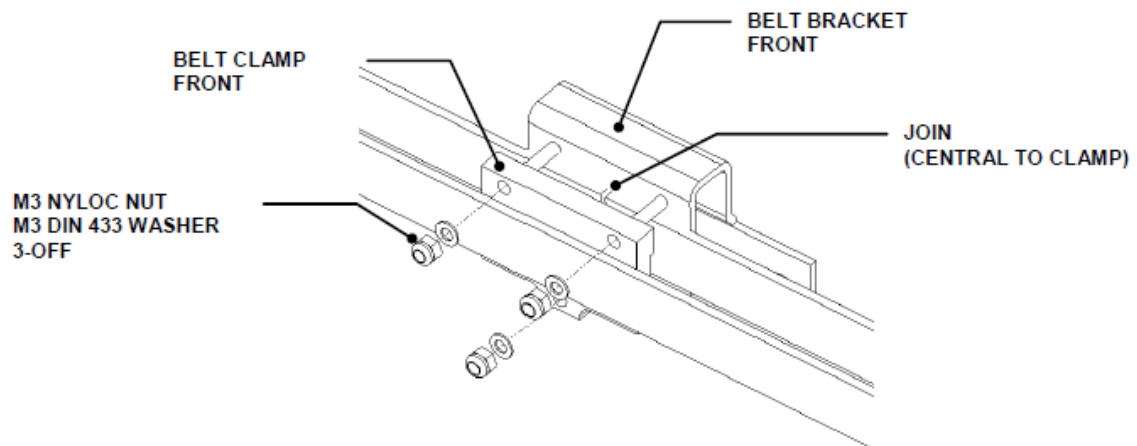

Figure X-14: The Transport Arm X Drive Belt Clamp
2. Remove the front part of the belt clamp by unscrewing the three nuts as shown in Figure X-14 and remove the belt.